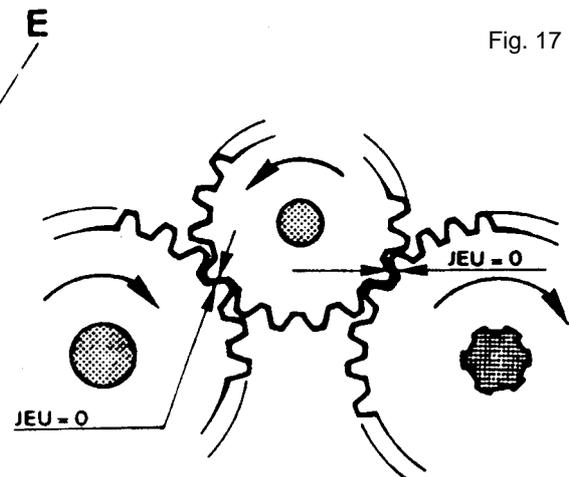

Fig. 17
- Proceed to adjust the transmission by fitting the gears as follows : (see Fig. 17).
1) Fit the small gear (A) on the upper shaft (C) and one of the large gears (B) on the left gear shaft (D). Turn the small gear in the direction indicated on Fig. 17 and the right gear shaft (E) in the opposite direction.
2) Having taken up the play in both side drives, fit the remaining large gear on the right shaft (E) so that one tooth of the small gear (A) drives the large gear (B) without any clearance between the teeth.